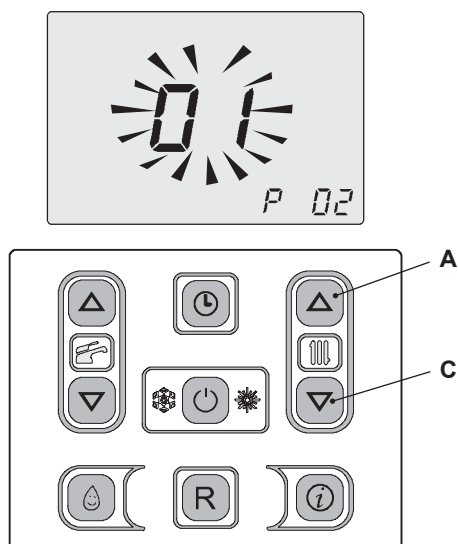

Figure 9.11
- 6 In order to pass from a parameter to another press c.h. set keys (A or C) at the same time until **P 02** are displayed on the display, indicating the entry in the “parameter 02” and the value of parameter (Figure 9.11)